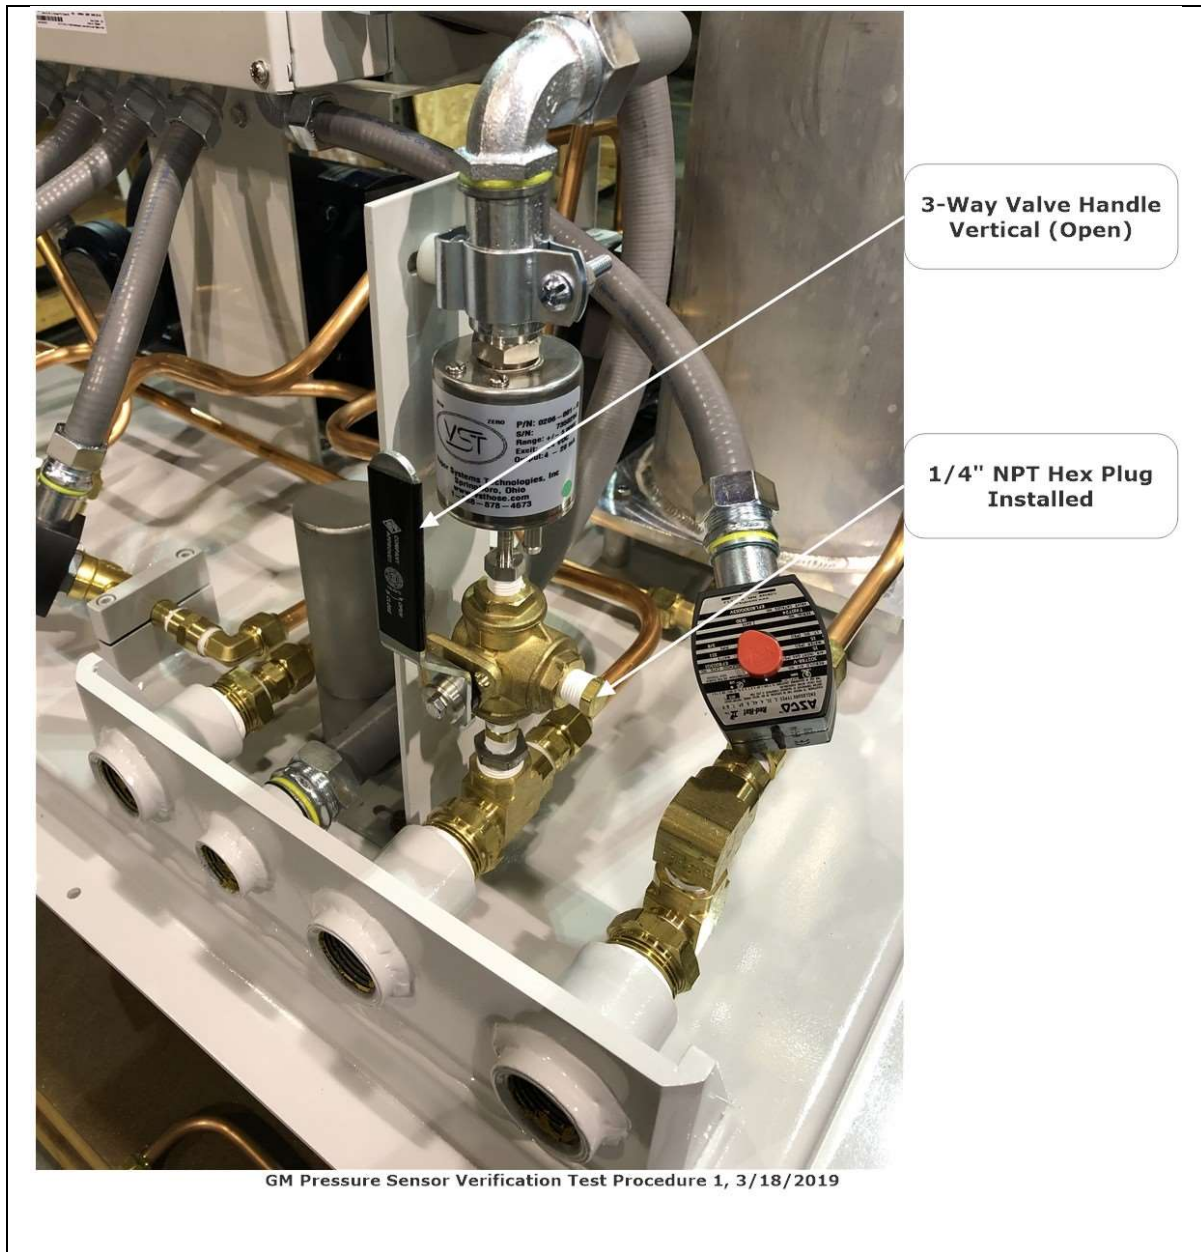

Figure 7-8: Pressure Sensor & 3-Way Valve, NORMAL Operation
4. Turn the handle on the 3-way ball valve located below the Pressure Sensor to horizontal (Closed) so the Pressure Sensor will read atmospheric pressure. **See Figure 7-8**
9. Turn the handle on the 3-way ball valve located below the Pressure Sensor to vertical (Open) so the Pressure Sensor will read UST pressure. **See Figure 7-8.**